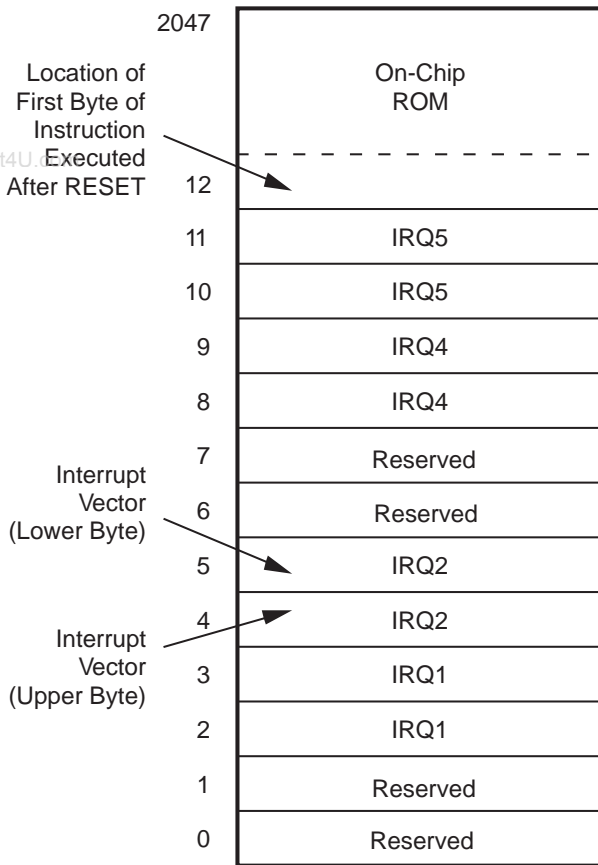

Figure 14. Program Memory Map
**Program Memory.** The Z86319 can address up to 2 KB of internal program memory (Figure 14). The first 12 bytes of program memory are reserved for the interrupt vectors. These locations contain four 16-bit vectors that correspond to the four available interrupts. Bytes 0-2047 are on-chip mask-programmed ROM.